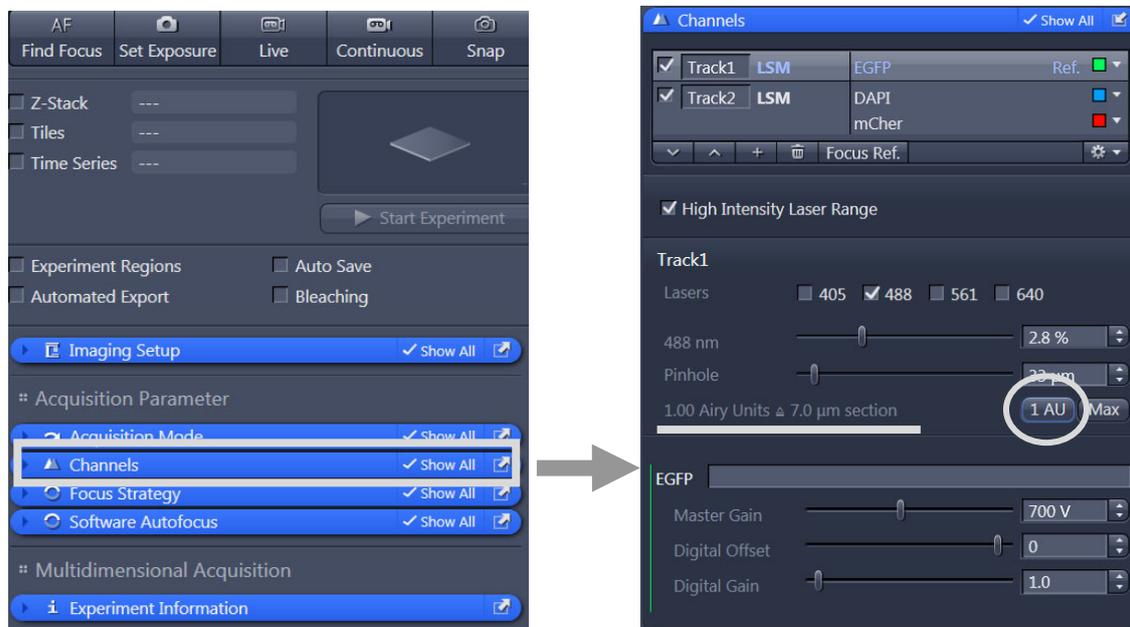

Fig.17 Channels tool
- Set the **Pinhole** to **1 Airy Unit** (Fig. 17)